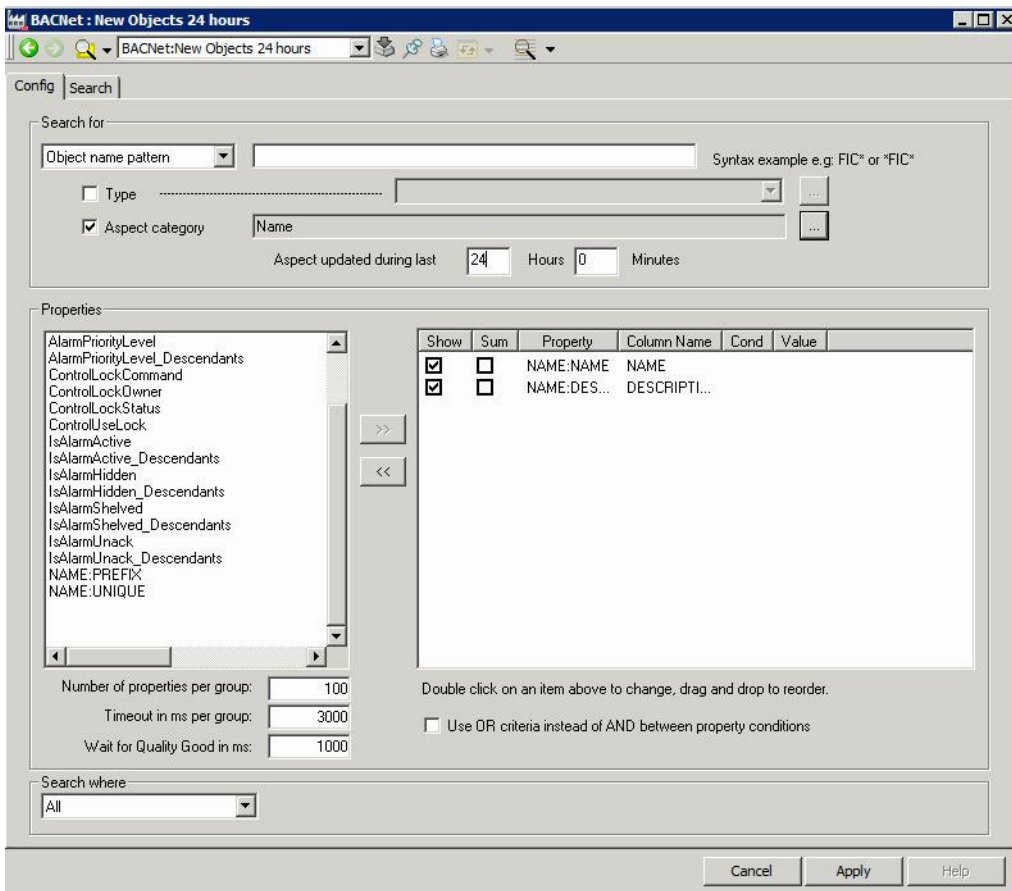

Figure 11. New Object 24 hours
- In the Properties window, select the Description and Unique parameters, use the >> button to select them for presentation. Set the Hours field to 24 in the **Aspect updated during last** function as shown in Figure 11.